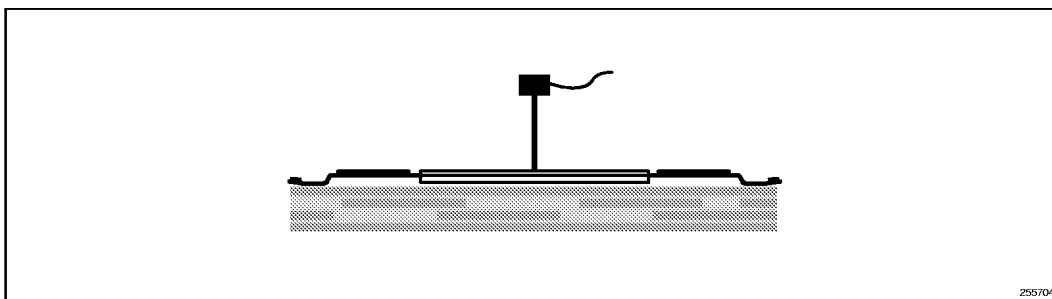

Figure 23. Technique for Measuring Case Temperature (T_c) on TCP
- The thermocouple should be attached at a 90° angle as shown in Figure 23.